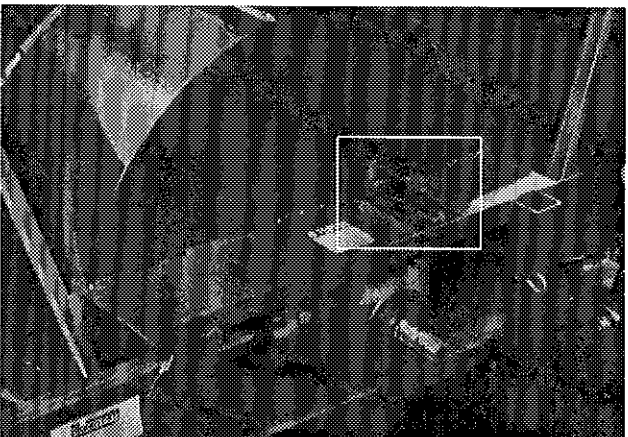

Figure 33
- 8) Check impeller adjustment. The tip of the blades should be approximately 1/8" to 3/16" from the discharge wall of the drum. If necessary, adjust with the take-up screws provided (Fig. 33).